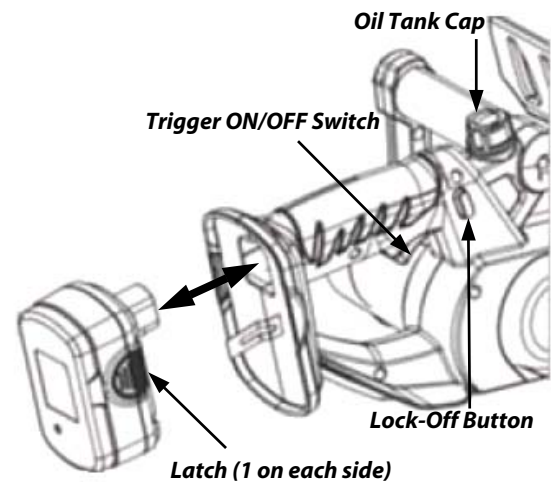

Figure 2
When installing the Battery Pack, **DO NOT** push the Lock-Off Button or squeeze the Trigger ON/OFF Switch (**Figure 2**).
1. Install the Charged Battery Pack in your NEUTON Battery-Powered Chain Saw by aligning the connector on the Battery Pack with the receptacle at the rear of the Saw and insert the Battery Pack (**Figure 2**) until the Latches on each side of the Battery Pack snap into place; assuring a secure connection to the Saw. Again, the Battery Pack and Saw Housing have keyways so they will fit together only one way.
2. To remove the Battery Pack, simply press both Latches on sides of the Battery Pack to release the Battery Pack from the NEUTON Battery-Powered Chain Saw Housing (**Figure 2**) and pull the Battery Pack straight out.
- Before starting the Saw, remove the Oil Tank Cap (**Figure 2** on page 5) and add the #32 Bar & Chain Oil provided. One (1) minute of use will consume approximately 0.15 fl. oz. (5ml) of oil. Refill when the oil level drops to 1/4 of a tank.
3. Push the Lock-Off Button IN (**Figure 2** on page 5) with your right thumb and squeeze the Trigger ON/OFF Switch with your right finger. Once the Motor starts you can remove your thumb from the Lock-Off Button. If the Saw does not start, make sure the Battery Pack is charged and locked firmly into place in the Saw Housing.